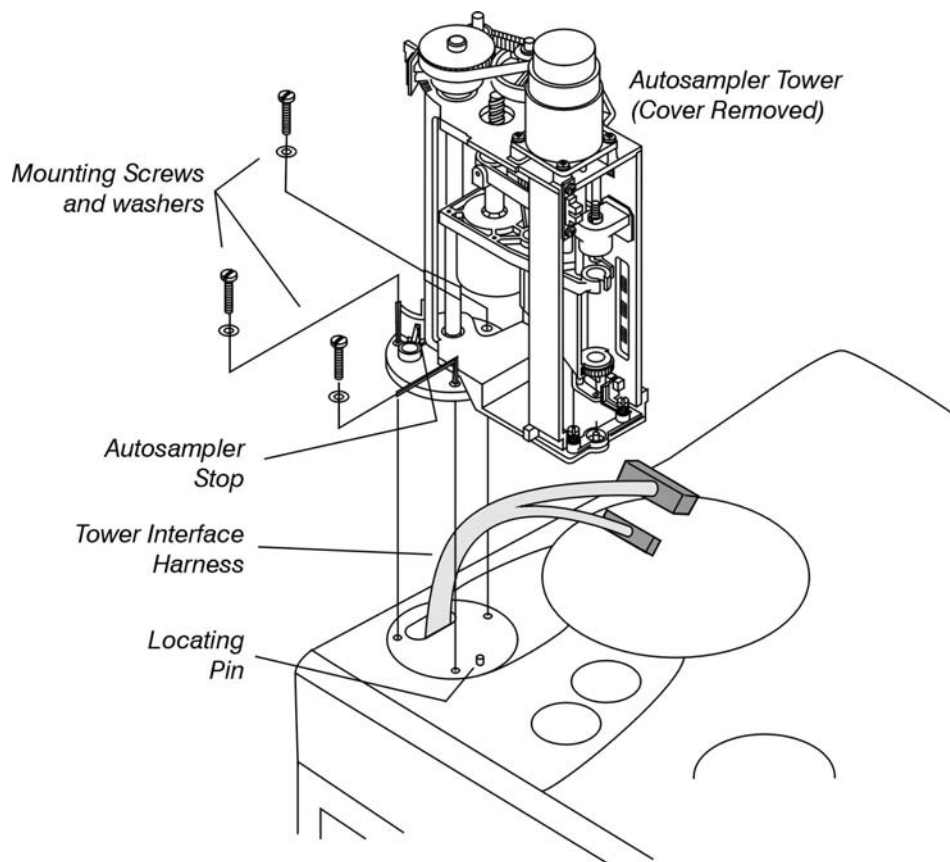

Figure 1. Installing the autosampler tower.
3. Install the autosampler tower on the top of the Clarus 500 GC as shown in Figure 1. The locating pin on the Clarus 500 GC fits into the slotted hole in the autosampler tower base.